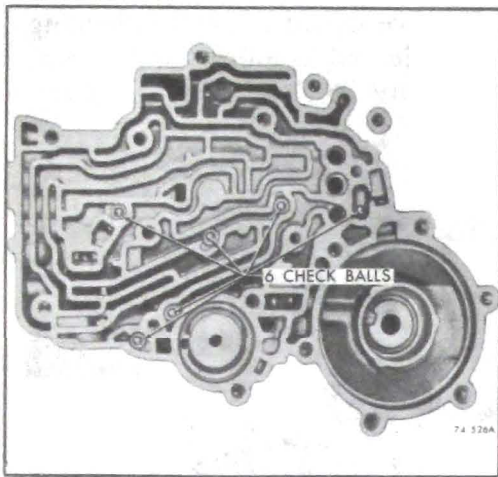

Figure 76-526
8. Remove six (6) check balls from cored passages in transmission case. See Figure 76-526.